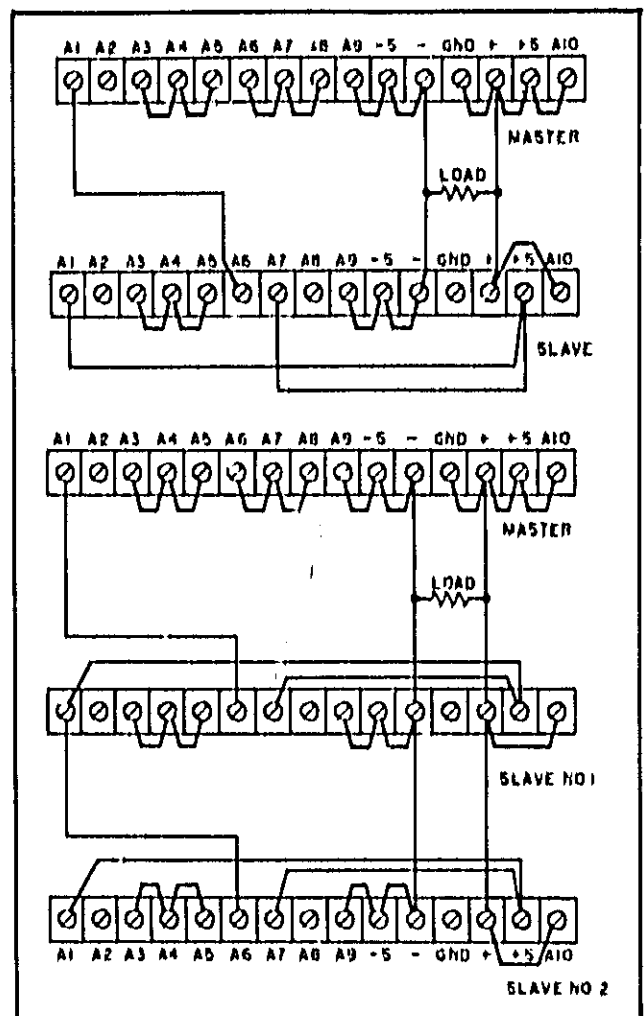

Figure 3-11, Auto-Parallel, Two and Three Units
**3-41 Auto-Parallel.** The strapping patterns for Auto-Parallel operation of two power supplies are shown in Figure 3-11. Auto-Parallel operation permits equal current sharing under all load con-